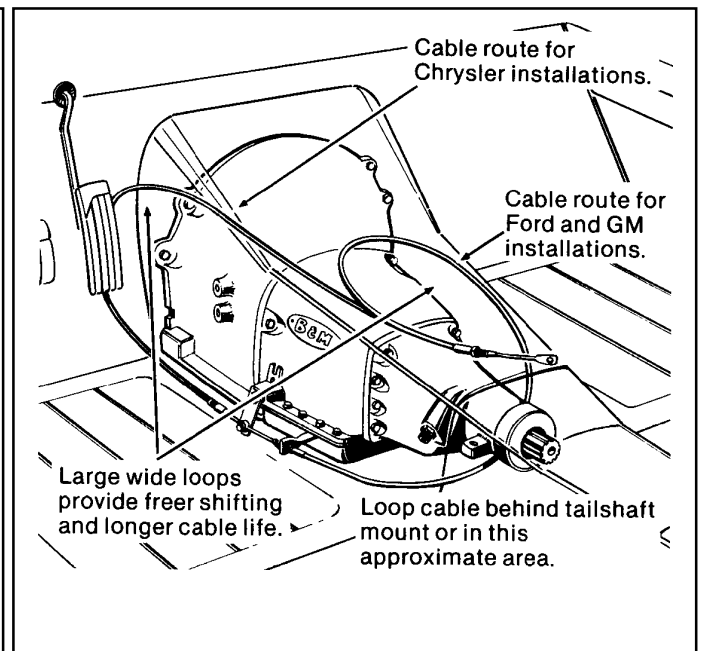

Figure 4
STEP 8. Install the shifter mechanism into the vehicle. Slide the shifter cable through the carpet and the hole in the floor. Bolt the shifter down using four 1/4" x 1-1/2" hex bolts and nuts. If required use 1/4" washers as shims between the shifter mechanism and the floor to level the shifter. **ROUTE THE CABLE AS SHOWN IN FIGURE 4, AVOID SHARP BENDS WHICH WILL KINK AND DAMAGE THE CABLE.** Use cable clamps or tie wraps to secure the cable housing to the chassis to avoid contact with hot engine or exhaust system.
STEP 12. Route the shifter cable according to **Figure 4**. Avoid kinks and sharp bends and route the cable away from hot engine or exhaust parts.
STEP 18. Route the shifter cable according to Figure 4. Avoid kinks and sharp bends and route the cable away from hot engine or exhaust parts.
STEP 23. Route the shifter cable according to **Figure 4**. Avoid kinks and sharp bends and route the cable away from hot engine or exhaust parts.